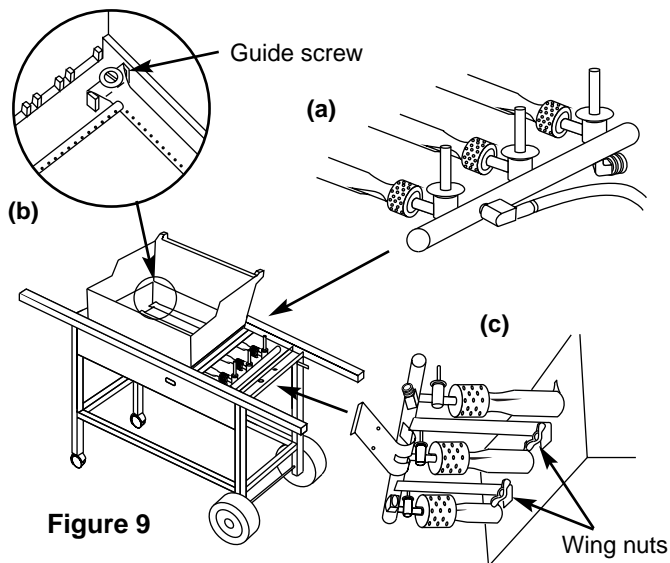

Figure 9
- Do the valves fit into the ends of the burners? Figure 9(a).
- Are the ends of the burners under the washers at the left rear and left front of the cooking box? The screws are only guides. Do not tighten. Figure 9 (b).
- Are the wing nuts under the burner assembly hand tight? Do not tighten with pliers. Figure 9 (c).